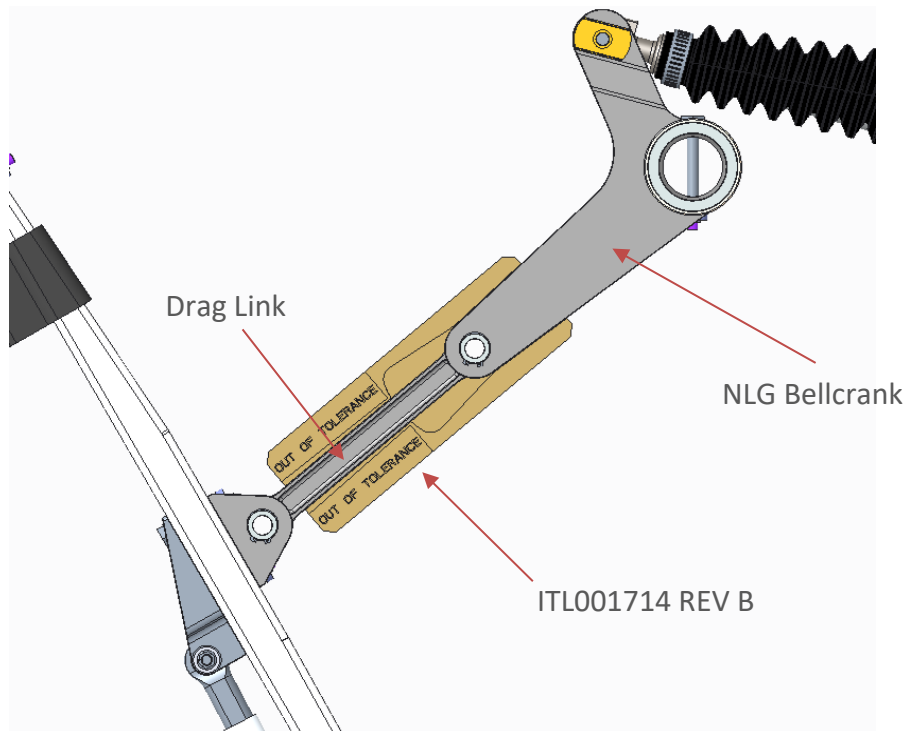

Figure 2: ITL001714 Rev B indexed on NLG bellcrank showing the drag link within the “in tolerance” range.
- a. If a .163 in rig pin can be inserted into the NLG rigging hole (figure 2), move to step 2 of this section.